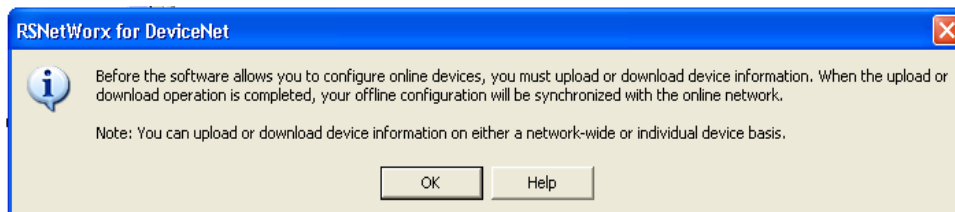

Figure 5-14: Confirmation Dialog Box
3. Click OK to continue. A dialog box like the one shown in Figure 5-14 will appear. Note that you may be asked to upload or download, depending on the version of software used.